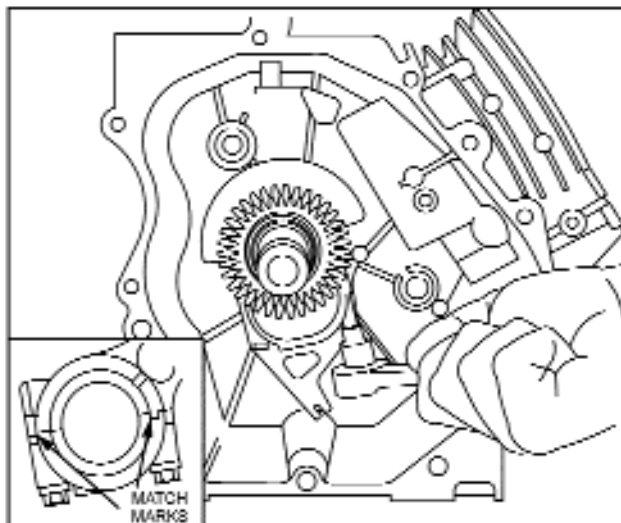

Figure 120 - Rod and Cap Alignment
5. Pull connecting rod against crankpin and install rod cap with match marks aligned, Figure 120.